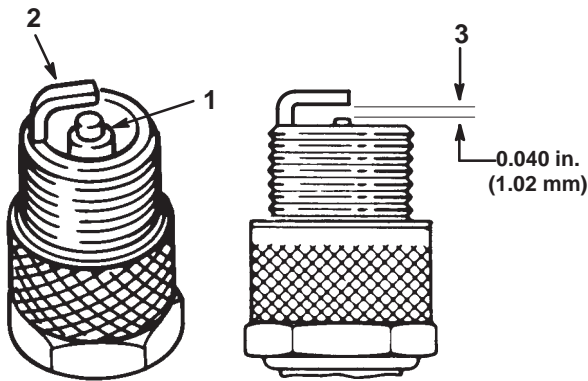

Figure 34
1. Look at the center of the spark plug(s) (Fig. 34). If you see light brown or gray on the insulator, the engine is operating properly. A black coating on the insulator usually means the air cleaner is dirty.
2. Check the gap between the center and side electrodes (Fig. 34). Bend the side electrode (Fig. 34) if the gap is not correct.